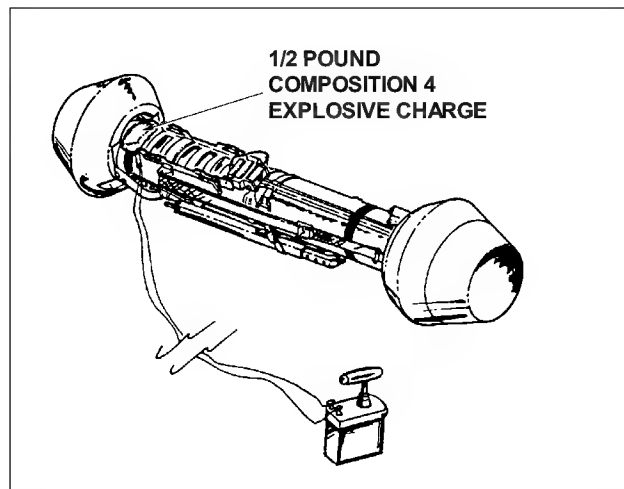

Figure H-1. Explosive charge on a round.
- b. **Exploding.** Explosives not only destroy the missile, but also the launcher. Placing one-half pound of explosive material on the round near the warhead should destroy the round (Figure H-1, page H-3).